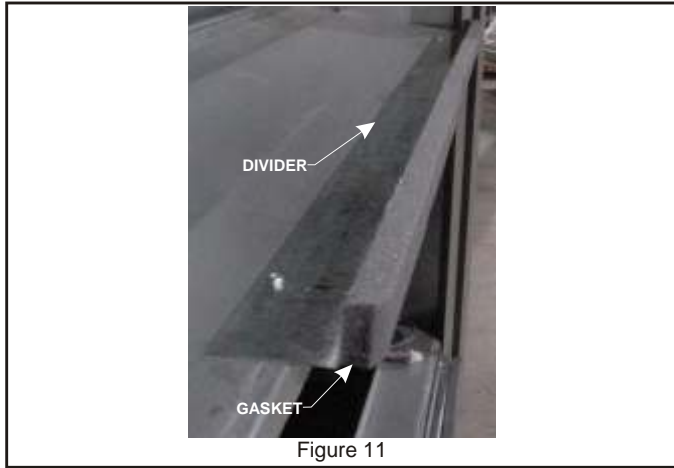

Figure 11
2. Install divider. Attaching to rooftop unit division panel with 1" flange pointing upward. This part has slots to aid in setting to proper position (Approx. 1" away from divider edge). Apply $\frac{3}{4}$ " x 1 $\frac{1}{4}$ " gasket to front edge of seal stop. **See Figure 11.**